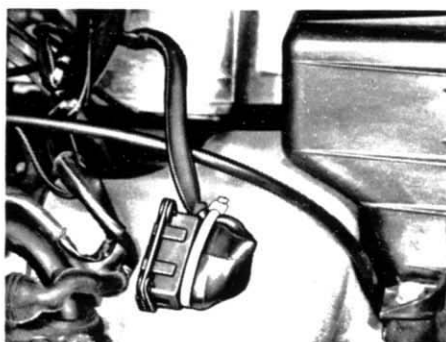

Figure 5
6. Reinstall rubber boot on plug housing. Loop wiring harness along side of plug and tie wrap as shown in Figure 5.